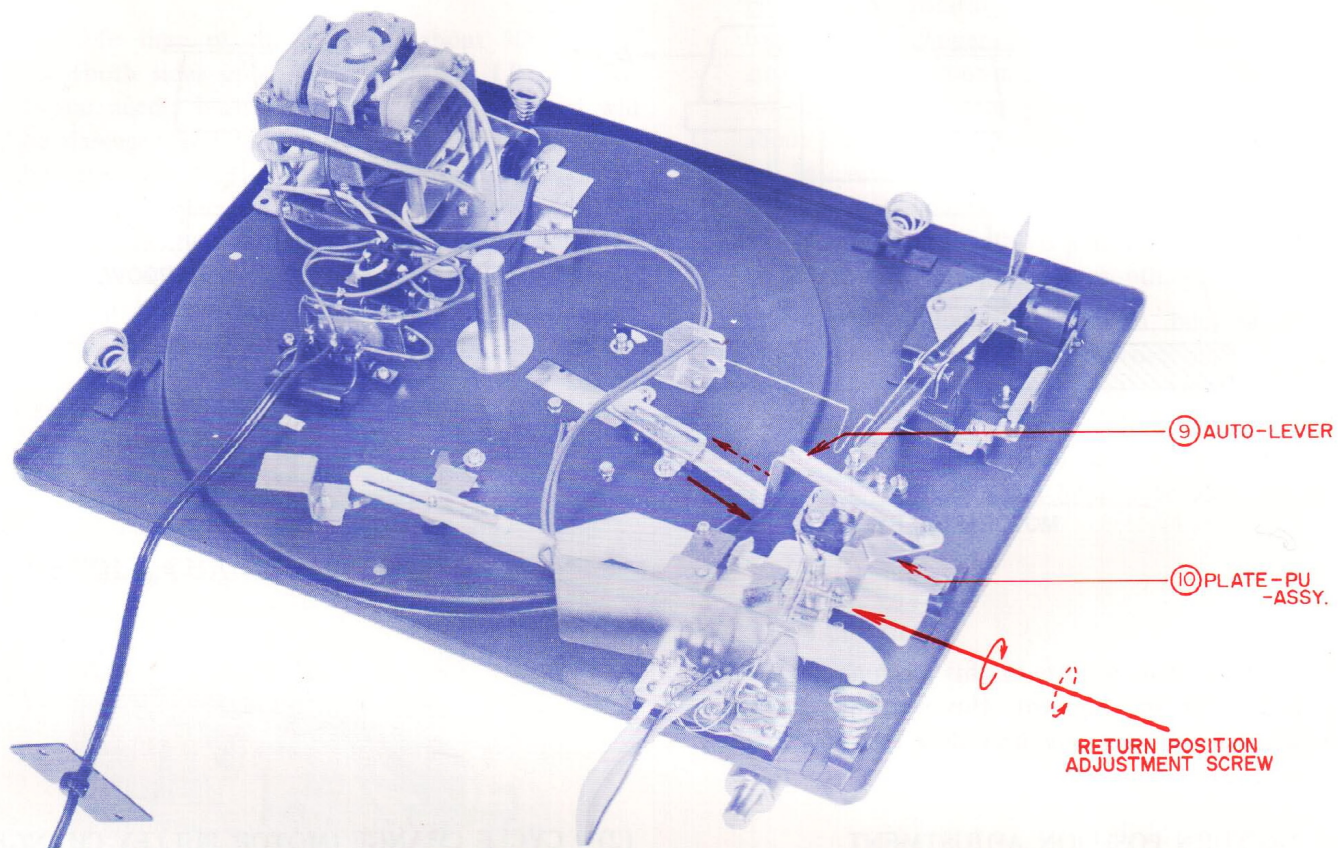

Fig. 14
(1) RETURN POSITION ADJUSTMENT
Remove turntable and loosen the plate holder metal fitting (PLATE LOCK (20)). This can be accomplished after loosening the two installation screws (19) on the table mount 2 or 3 turns. (Fig. 15) Because this separates the table mount and the cabinet by a considerable degree, the return position adjustment screw (18) located on the reverse side of the PU Arm becomes accessible. Adjust with plus driver (Fig. 14) As shown in Fig. 14 when the adjustment screw is turned to the right (in direction of solid line), the return position is slowed (inside circumference approach) and when the adjustment screw is turned to the left (in direction of broken line), the return position is speeded up (outside circumference approach). (When the adjustment screw is turned 1 revolution, the position of the PU Arm stylus tip is changed by about 8 m/m).